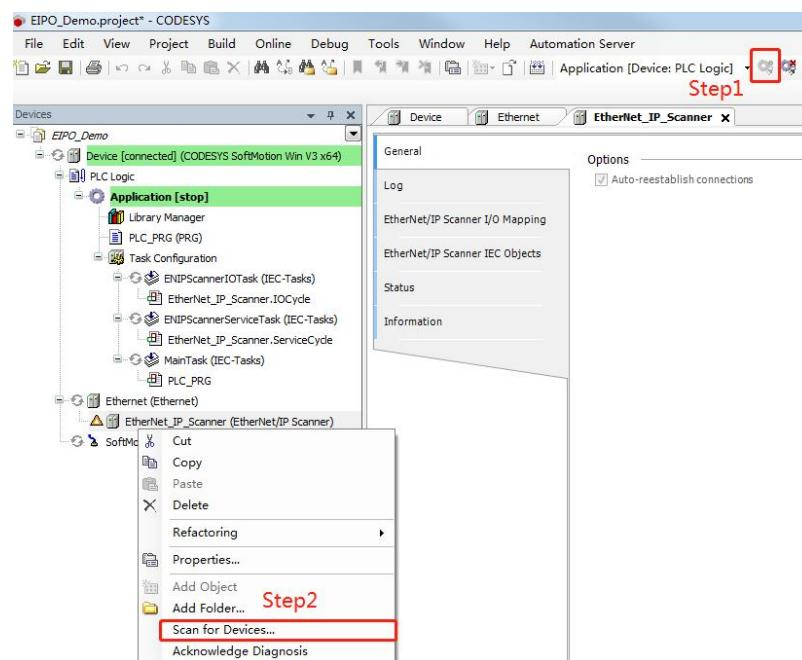
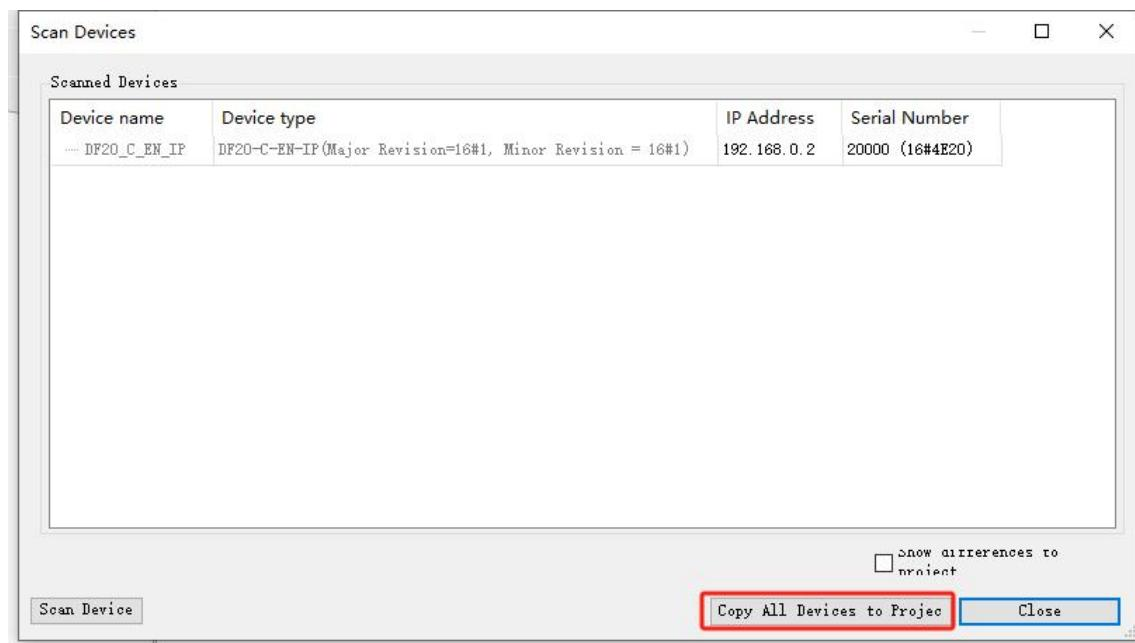

Figure 5-4-10
Figure 5-4-11
- Method 1 for adding devices: As shown in Figure 5-4-10~Figure 5-4-11, scan the EIP slave station